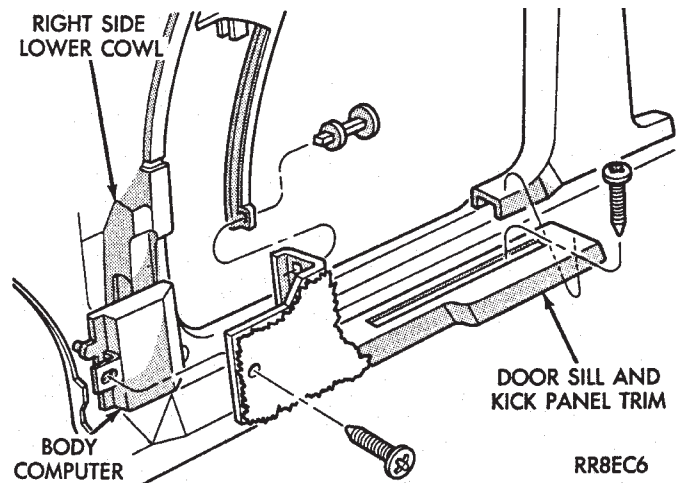

Fig. 37 Body Controller Location
(1) Remove right side door sill and kick panel trim five screws (Fig. 37).
(2) Disconnect body controller wiring.
(3) Remove controller retaining nuts.
(4) For installation reverse above procedures.